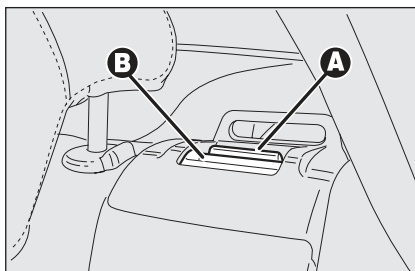
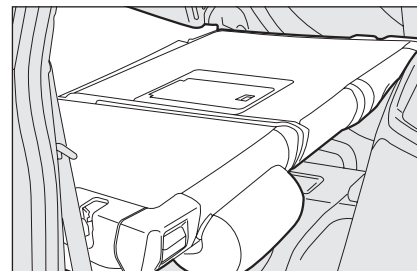

fig. 76
fig. 77
- ☐ raise backrest retaining levers **A**-**fig. 76** and tilt the backrests forward in order to obtain a single loading surface **fig. 77** (when raising lever **A** the "red band" **B** will appear).
- ☐ raise backrest retaining lever **A**-fig. 76 and tilt the backrest forward (when raising lever **A** the "red band" **B** will appear).
Make sure the backrest is properly secured at both sides ("red bands" B-fig. 76 not visible) to prevent it moves forward in the event of sharp braking causing injuries to passengers.